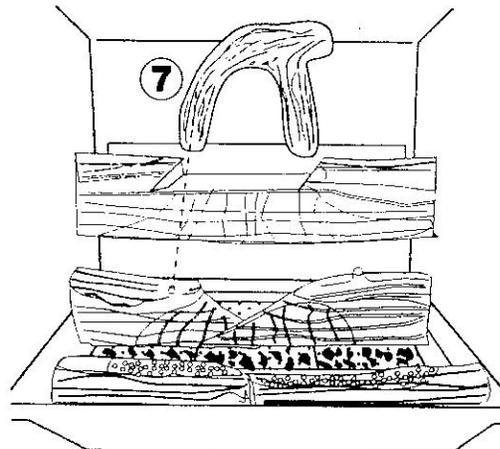

Figure 3-35. Install the Top Log.
6. Engage the Top Log (7) with the Rear Log and the pins on the Middle Logs as shown in Fig. 3-35.